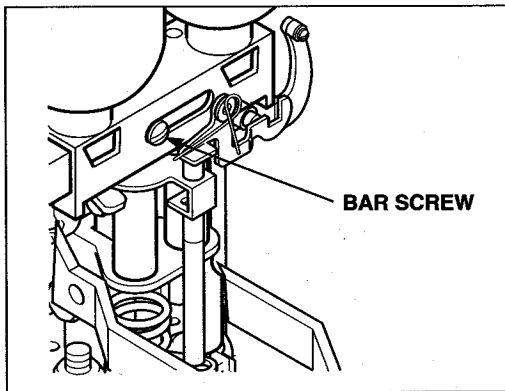

Figure 10
2. Remove the bar screw, Figure 10.